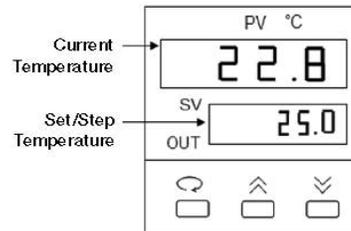

Fig. 1. Temperature Control Screen.
- The temperature control screen (see Fig. 1).
1. From the temperature control screen, use the arrow keys to adjust the Set Temperature to your desired target temperature in °C (Fig. 1)
Note: Following programming by default the controller displays the Step Temperature rather than the Set Temperature (see Fig 1. below). The step temperature is the next temperature value the system will reach as it heats/cool to reach set temperature. To display the Set Temperature press the ↺ key.